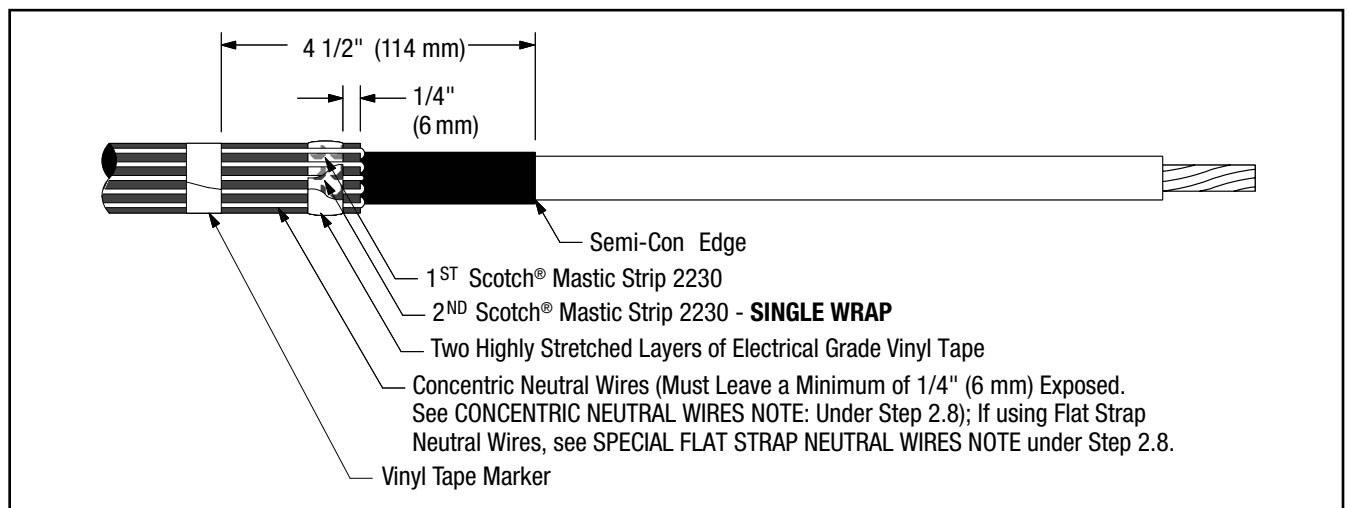

Figure 3
- 2.6 Bend neutral wires back over applied sealing mastic and secure to cable jacket **4 1/2" (114 mm)**, from cable semi-con edge using vinyl tape (see NOTE and figure 3).
- 2.7 Select second Scotch® Mastic Strip 2230 from kit and remove white release liners. Apply a second **SINGLE WRAP** of mastic over the neutral wires and previously applied mastic (Figure 3). Cut off excess.
- 2.8 Compress neutral wires into Scotch® Mastic Strip 2230 by over-wrapping seal strips with two highly stretched layers of electrical grade vinyl tape (Figure 3). **Be sure to cover all exposed mastic AND TO READ THE CONCENTRIC NEUTRAL WIRES NOTE, OR THE SPECIAL FLAT STRAP NEUTRAL WIRES NOTE, BELOW CONCERNING APPLICATION OF THE TWO HIGHLY STRETCHED LAYERS OF ELECTRICAL GRADE VINYL TAPE.**